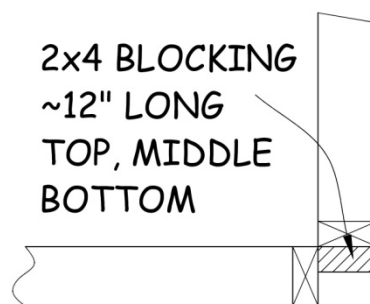

Figure 6-8. Basement Exterior Wall Corner.
2. Start by laying out the exterior walls. Where exterior walls meet, abut the corners of the end studs, and nail or screw blocking to the end stud of one wall (see Figure 6-8). Plumb both walls, and nail the non-blocked stud into the blocking to secure the wall.
10. Measure and cut, at the same angle, two 2x4s to fit above and below the angled brace as shown in Figure 6-8, “B” and “C”, respectively. Toenail the lower (“C”) to the bottom plate and through the diagonal brace into the top. Nail the upper (“B”) through the upper plate into the top end and then through the diagonal brace into the lower end. Use two 3¼” collated nails at each location.